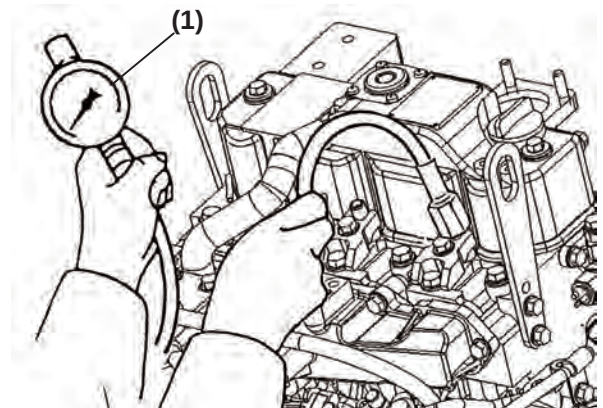
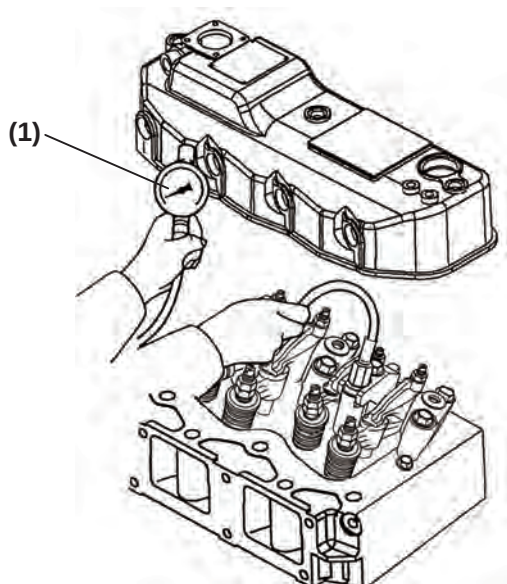

Figure 1-1
Figure 1-2
6. Before installing the compression gauge ((Figure 1-1, (1)) 2 valve engine, (Figure 1-2, (1)) 4 valve engine) adapter, crank the engine with the stop solenoid disconnected for a few seconds to clear the cylinder of any residual fuel.